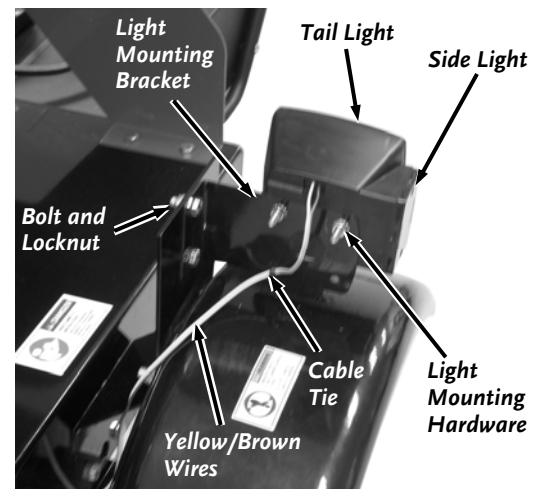

Figure 12
9. Mount a Light Bracket to both sides of the Chipper with two 5/16-18 x 3/4" Bolts and Locknuts each using two 1/2 Wrenches (**Figure 12**).